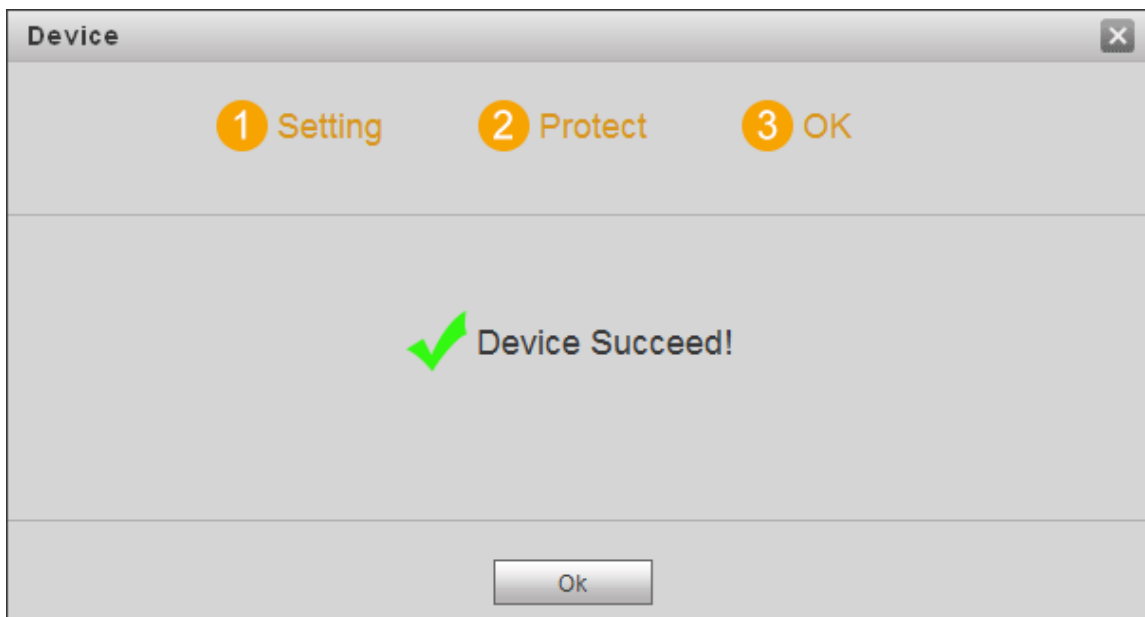

Figure 8-3
- Step 4 Click “Next”. The system displays “OK” interface, as shown in Figure 8-3, and shows “Device succeed!”